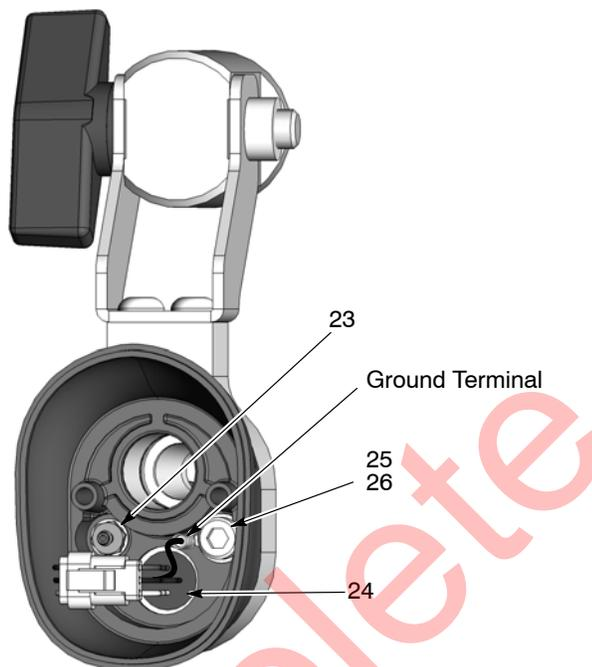

Figure 7-3 Gun Disassembly – Cable Receptacle and Barbed Fitting Replacement
5. Insert a small flat-bladed screwdriver into the slot on the harness connectors and separate the receptacle harness (24) from the power supply harness.
6. See Figure 7-3. Disconnect the clear air wash tubing from the barbed fitting (23) inside the rear body.
- a. See Figure 7-3. Use a 4-mm hex wrench to remove the hex head screw (25) and washer (26), and disconnect the ground terminal.
- g. See Figure 7-3. Connect the ground terminal to the end cap with the hex head screw and washer (25, 26).
16. See Figure 7-3. Connect the air wash tubing to the barbed fitting, and the power supply harness to the cable receptacle harness.